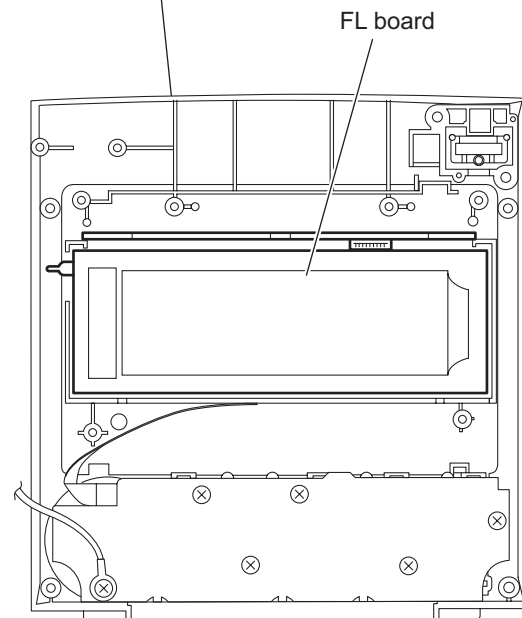

Fig.25
- Take out the FL board from the front assembly section. (See Fig.25.)